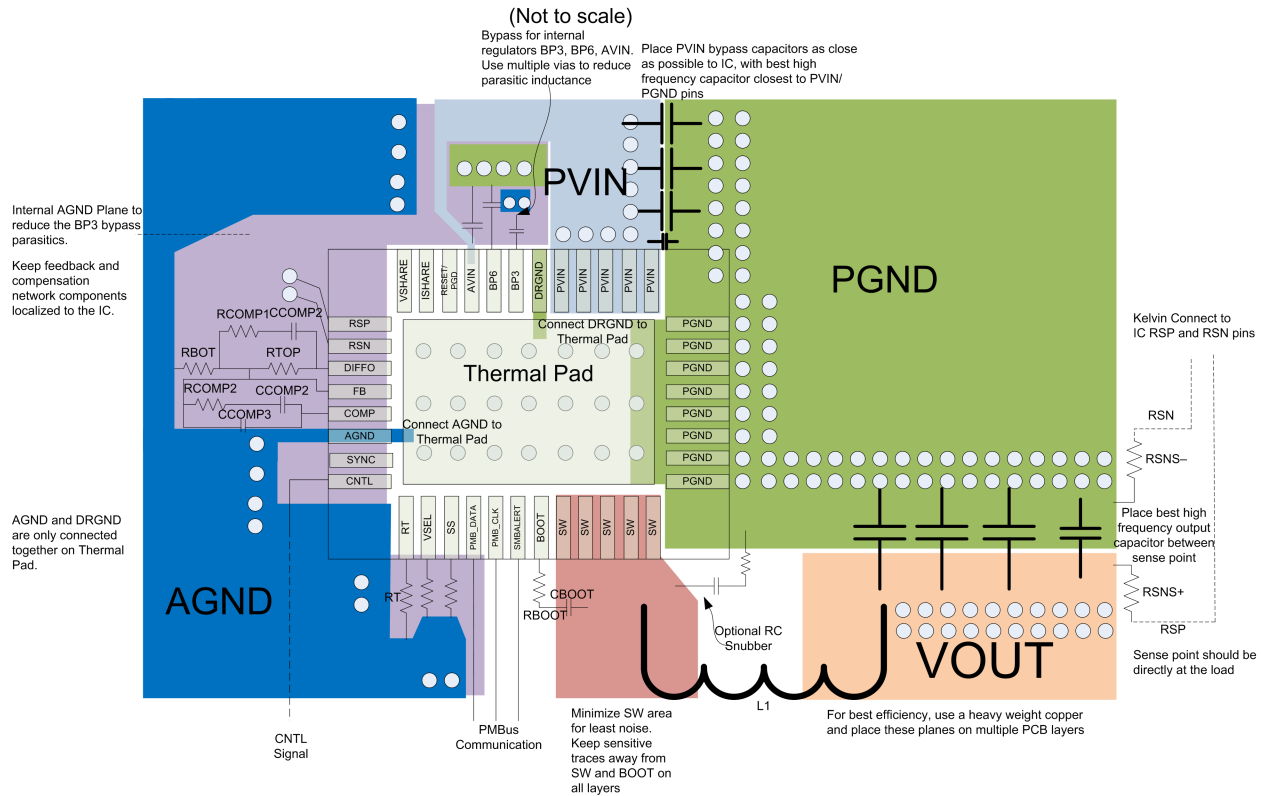

图 52. PCB Layout Recommendation
Layout is critical for good power-supply design. Figure 52 shows the recommended PCB-layout configuration. A list of PCB layout considerations using these devices is listed as follows:
- Keep signal components local to the device, and place them as close as possible to the pins to which they are connected. These components include the feedback resistors and the RT resistor. These components should also be kept away from fast switching voltage and current paths. Those components can be terminated to AGND with a minimum return loop or bypassed to the copper area of a separate low-impedance analog ground (AGND) that is isolated from fast switching voltages and current paths and has single connection to PGND on the thermal pad through the AGND pin. For placement recommendations, see Figure 52.
- The PVIN and AVIN pins must be the same potential for accurate short circuit protection, but high-frequency switching noise on the AVIN pin can degrade performance. The AVIN pin should be connected to PVIN through a trace from the input copper area. Optionally form a small low-pass R-C between the PVIN and AVIN pins, with the AVIN bypass capacitor (1 μ F) and a 0-2 Ω resistor between the PVIN and AVIN pins. See Figure 52 for placement recommendations.